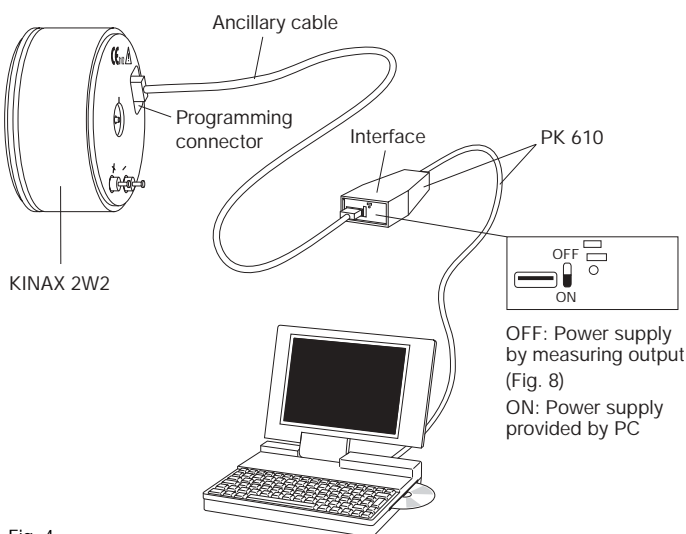

Fig. 4
Angular position transmitters of the KINAX 2W2 range do not require a mechanical zero position mark (however, this is made if required by the customer). After mounting, the transmitter can be moved to any position and configured using the 2W2 software. A power supply connection to the KINAX 2W2 is not required in order to use the 2W2 configuration software (Fig. 4: AUX switch on the PK 610 in the ON position).
1. Mount the angular position transmitter and mechanically connect it to the object to be measured. Connect the KINAX 2W2 to the programming device according to Fig. 4. Start the 2W2 configuration software. If necessary, configure the device with the required measuring range data.
1. Put the transmitter into operation and connect the programming device according to Fig. 4. (AUX switch on the PK 610 in the OFF position).